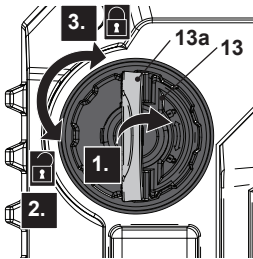

Fig. 9
1. Place the product on a stable, level surface with the oil tank cap (13) facing upward. We recommend laying a non-flammable sheet under the product.
2. Flip the locking ring (13a) up and hold it, then unscrew it anticlockwise and remove the oil tank cap (13) (Fig. 9, steps 1, 2).
Wipe up spilled lubricant with a soft cloth and refit the oil tank cap (13) (Fig. 9, step 3).